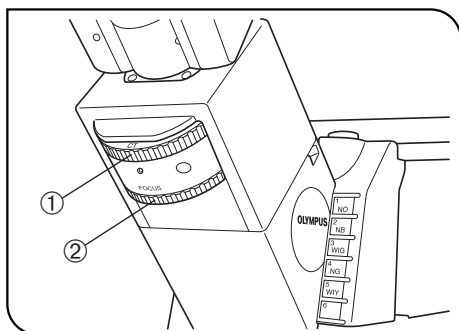

Fig. 51
3 Centering the Phase Contrast Ring Slit (Figs. 51 to 53)
2. When the U-BI90CT binocular observation tube is used, rotate the CT turret ① to position "CT". When the observation tube in use is other than the U-BI90CT, remove an eyepiece and attach the U-CT30 centering telescope in place. (Fig. 51)
4. Rotate the focus ring ② (or the knurled section when the U-CT30 is used) to focus on the ring slit ③ and the phase plate ④ of the objective.
(Figs. 51 & 52)